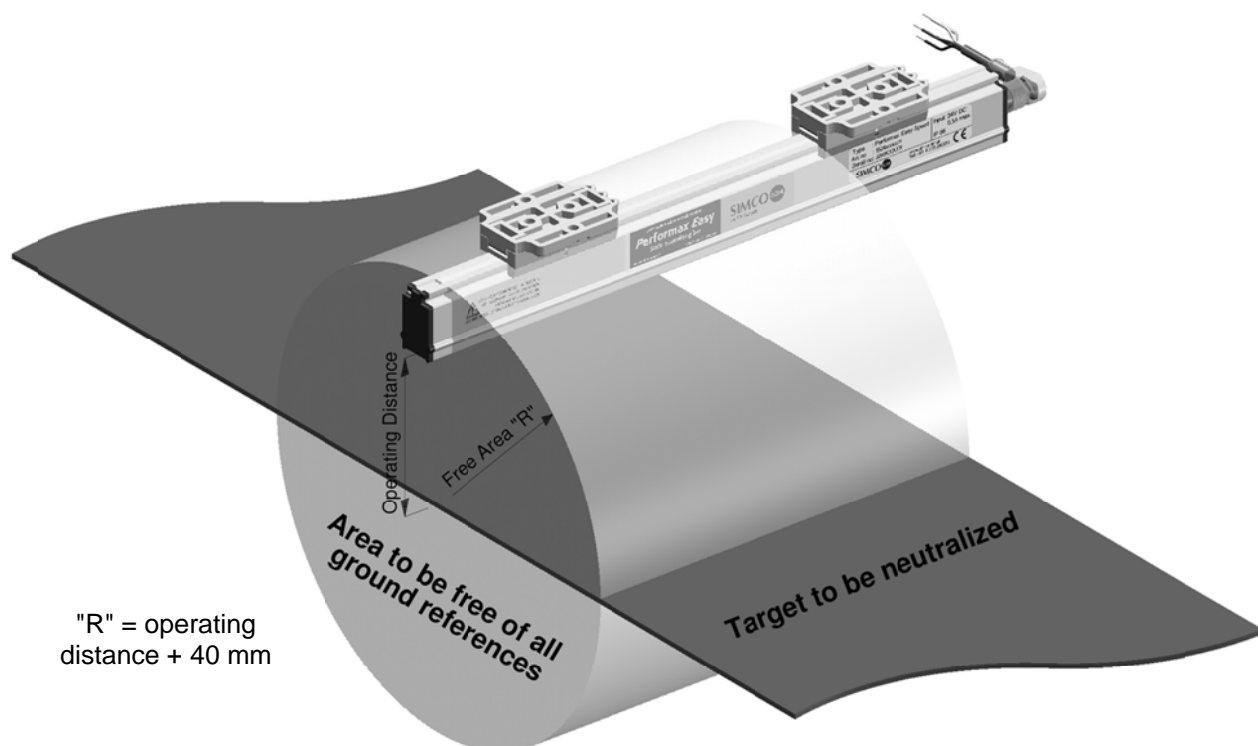

Figure 3: Optimum position of the Performax Easy and Performax Easy Speed
- **For optimum results, the anti-static bar must be fitted as per Figure 3.**
- 5.4.1- Mount the anti-static bar using the mounting materials provided: (see fig. 3, 4 and 5)